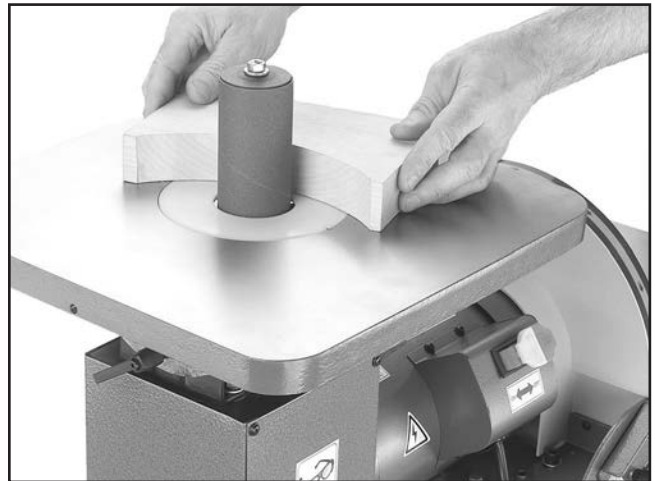

Figure 17. Spindle sanding.
5. Turn the power switch *ON* to start the spindle sander and begin sanding as shown in **Figure 17**.